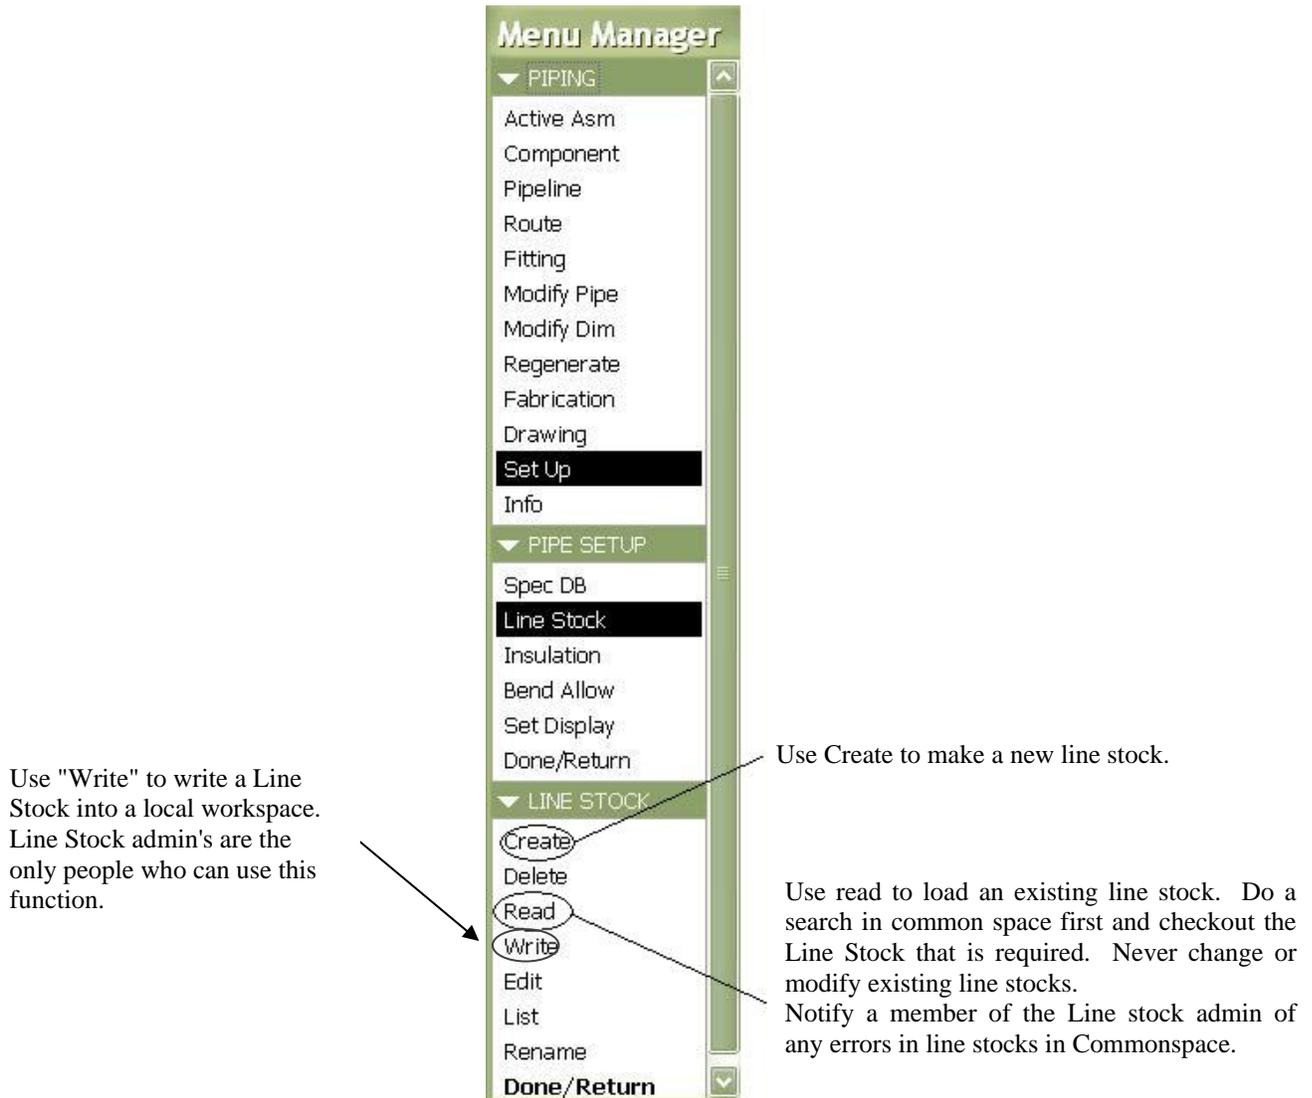

FIGURE 14:LINE STOCK CREATE / READ
- The Line Stock is assigned first in the set-up process of creating a route; *see Figure 14.*